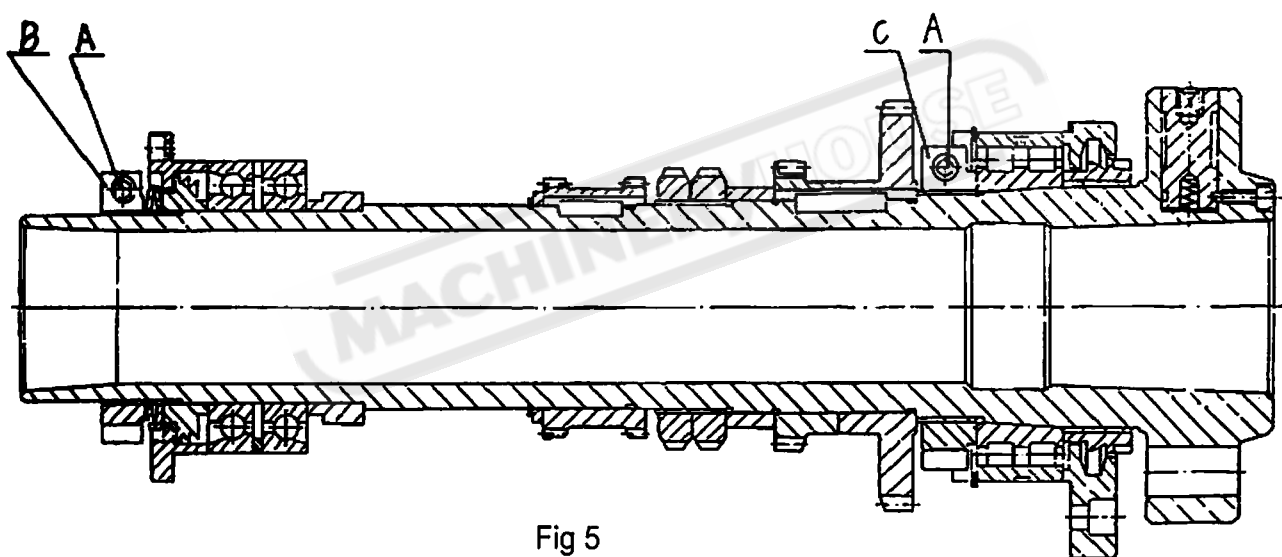

Fig 5
1. Loosen the hex socket cap screw(A, Fig.5)
2. Adjust the nut(B, C, Fig.5) to proper position.
3. Tighten the hex socket cap screw (A, Fig.5)